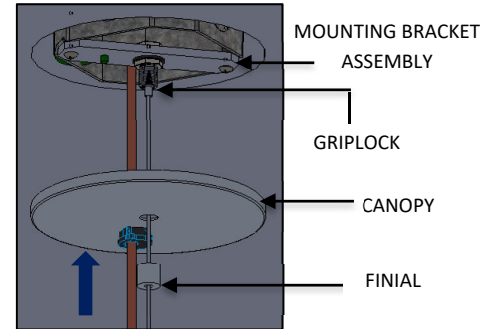

FIG. 28 - FINIAL INSTALLATION
14. Raise CANOPY and secure to ceiling by threading the FINIAL to the GRIPLOCK until fully seated as shown in FIG. 28.